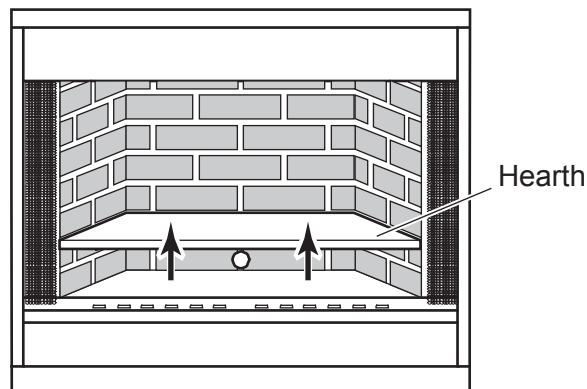

Figure 33 - Removing Hearth
4. Lift back edge of hearth upward using the two grate retainers. Pull hearth toward you. Remove hearth. *See Figure 33.*